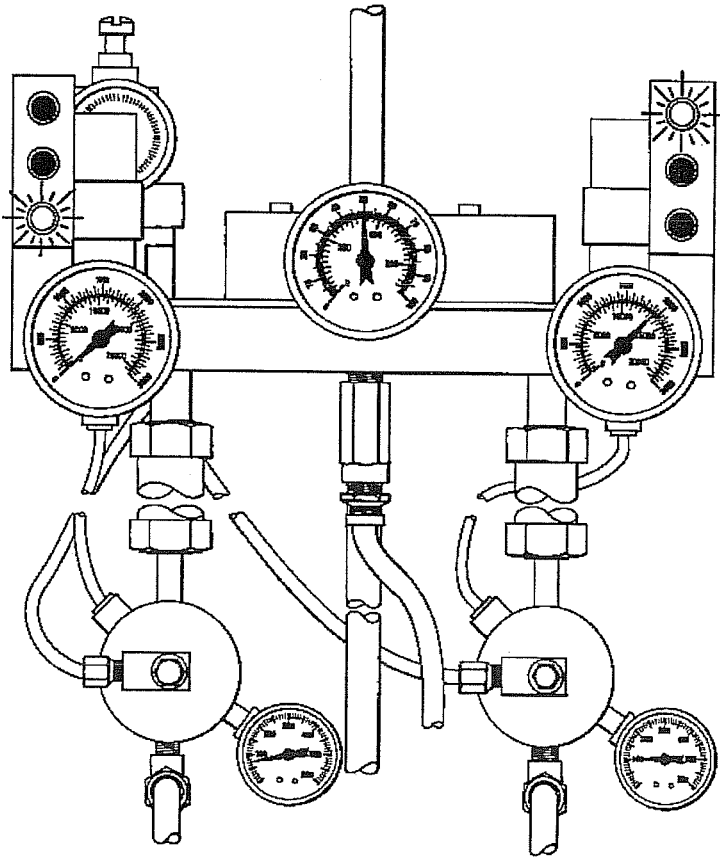

Figure 4-15
4. Open the bleed valve and *SLOWLY* close the bank shutoff valve on the bank supplying gas to the delivery line. This action simulates the depletion of the Primary Supply. The following activities should take place (Figure 4-15):